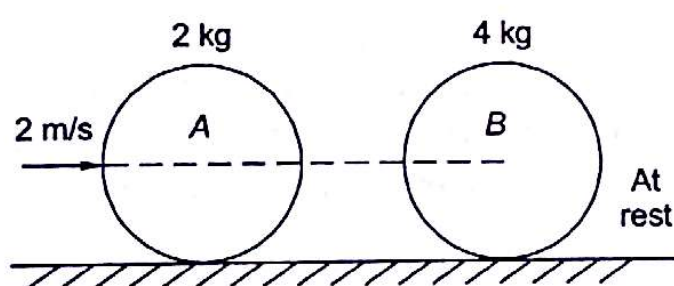

Fig. 21.19
- 21.15 Ball A of mass 2 kg moving with a velocity of 2 m/s impinges directly on a ball B of mass 4 kg at rest as shown in Fig. 21.19. If coefficient of restitution is 0.5, what is the velocity of two balls after impact?